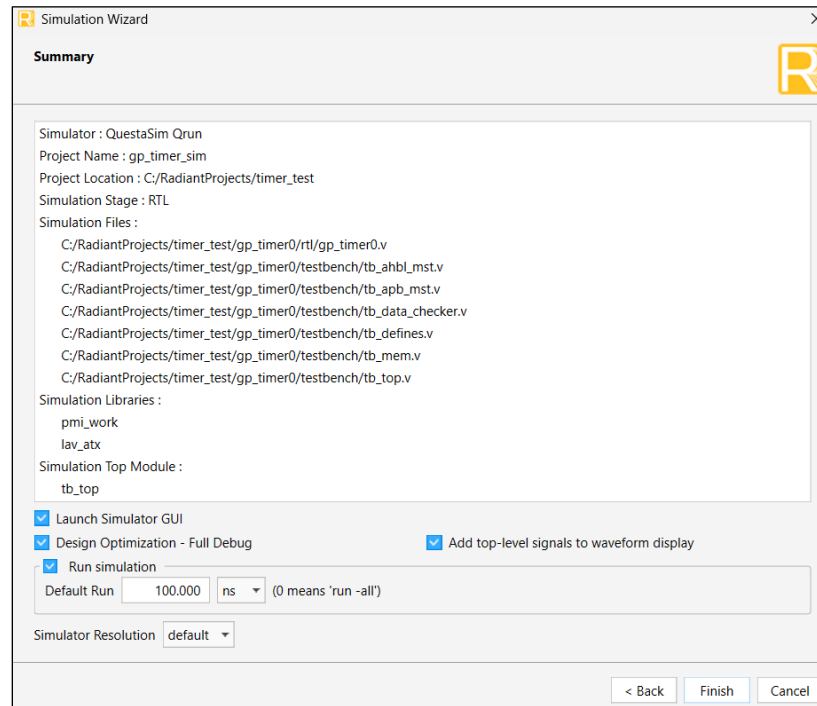

Figure 3.6. Summary Window
- Click **Next**. The **Summary** window is shown in Figure 3.6.
IP Generation, Synthesis, and Validation	- Added a note on screenshots in this section. - Updated Figure 3.1. Module/IP Block Wizard – Figure 3.6. Summary Window.